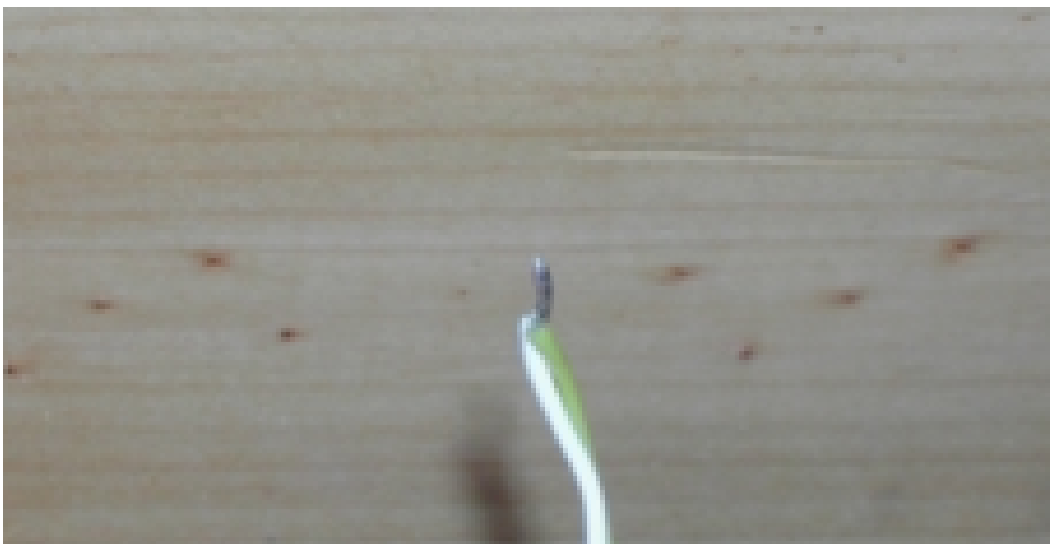

Figure 26: Gain wires shorted.
5. **Repeat for all the other wires.** However, if your photomultiplier has additional wires for setting the gain, do not crimp them. Instead, short the gain wires by twisting them together, soldering them to each other, and then wrapping tape around the exposed ends (Figure 26).